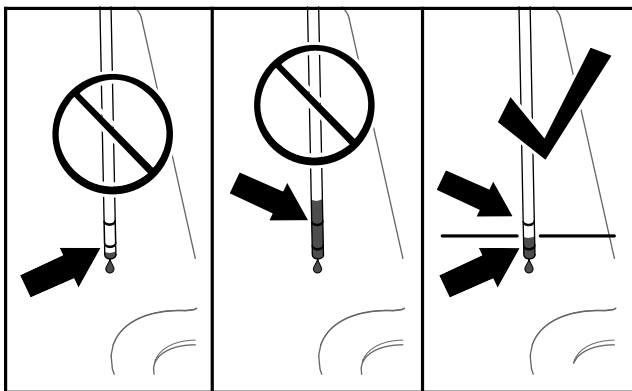

Figure 82
6. Remove the dipstick and check the fluid level (Figure 82).
fill tube (Figure 82) until you can see that the fluid level is between the 2 marks the dipstick.
8. Add the specified hydraulic fluid into the fill tube until you can see that the fluid level is between the 2 marks the dipstick (Figure 82).